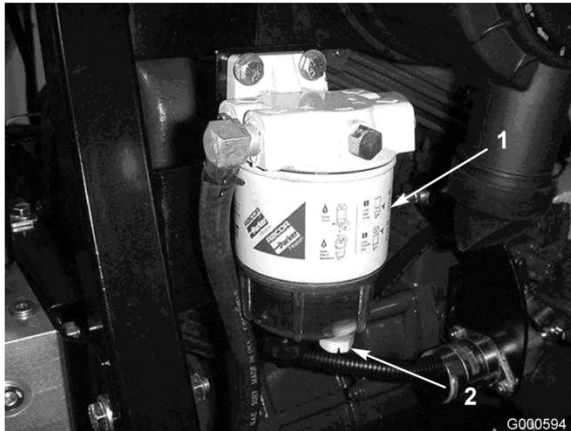

Figure 37
Drain water or other contaminants from the water separator (Figure 37) daily.
2. Loosen the drain plug on the bottom of the filter canister (Figure 37). Tighten the plug after draining.